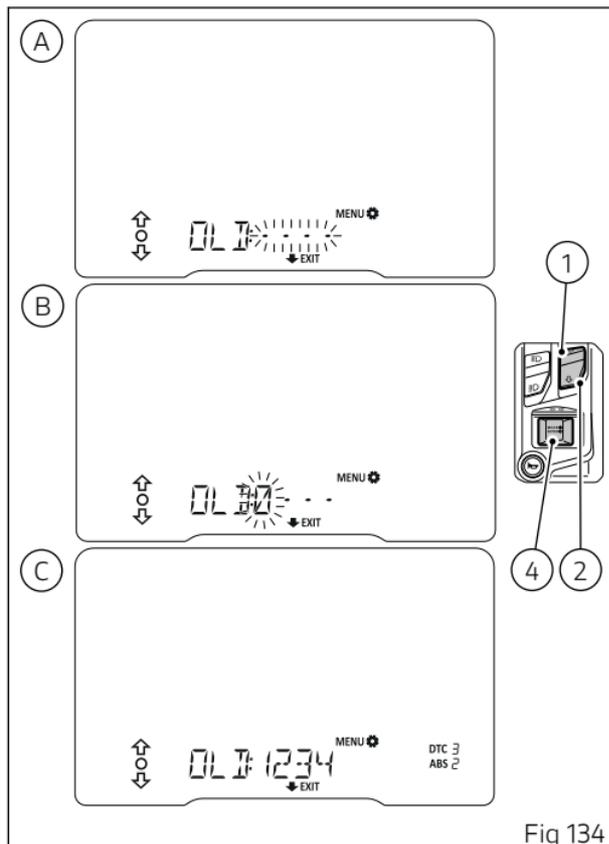

Fig 134
When you press button (4) to confirm the fourth and last digit (C, Fig 134), the instrument panel responds as follows:
- if the PIN is not correct, the instrument panel shows "WRONG" flashing for 2 seconds and quits the PIN CODE editing function. Then you can select and enter again the old code (A, Fig 134)